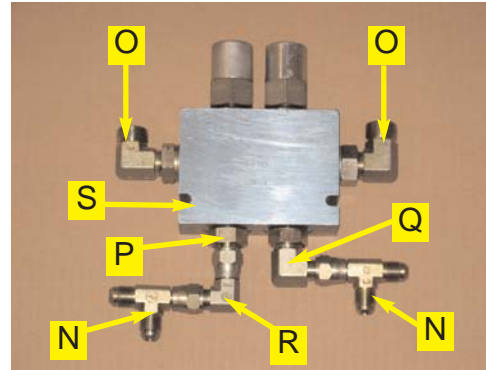

Figure 5a. Assembled counter-balance valve.
- a. Install the elbow fitting (O) into the V1 and V2 ports and adapter fitting (P) and (Q) into the C1 and C2 ports of the counter-balance valve (S). (Figure 5a.)
- b. Install the adapter fitting (R) on adapter fitting (P). (Figure 5a.)
- c. Install the run tees (N) to the adapter fittings (Q) and adapter fitting (R). (Figure 5a.)